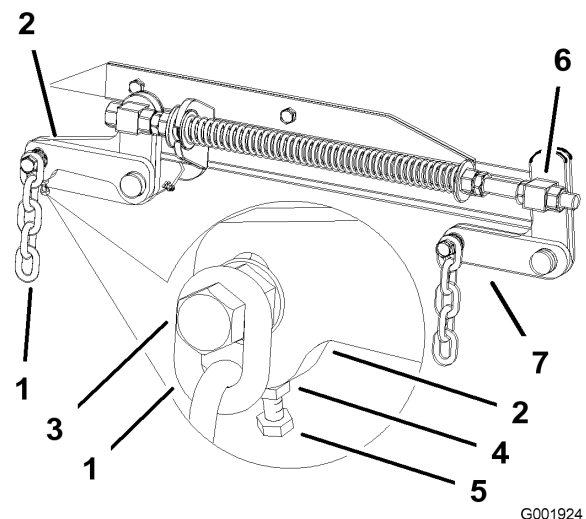

Figure 61
7. If the measurements at positions **B** or **C** are not correct, loosen the bolt attaching the rear chain to the rear support arm (Figure 61).
8. Loosen the jam nut under the rear support arm and adjust the adjustment bolt to get a measurement of 3-1/8 to 3-1/4 inches (Figure 61).
7. Loosen the front swivel jam nuts, at the front of the right and left swivels, approximately a 1/2 inch (13 mm) (Figure 61).
8. Adjust the lift nuts on both the left and the right side of the machine to achieve 1/4 to 3/8 inch (6 to 10 mm) lower in front at **A** than in the rear at **B** (Figure 61).